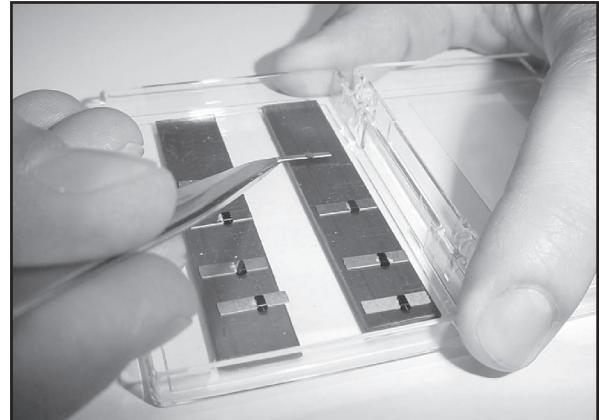

Figure 2.16: Lift the Probe, Cantilever side first
- Grasp the metal plate, and carefully rotate the tweezers so the cantilever edge of the metal plate lifts up off the magnetic strip first as shown in Figure 2.16.